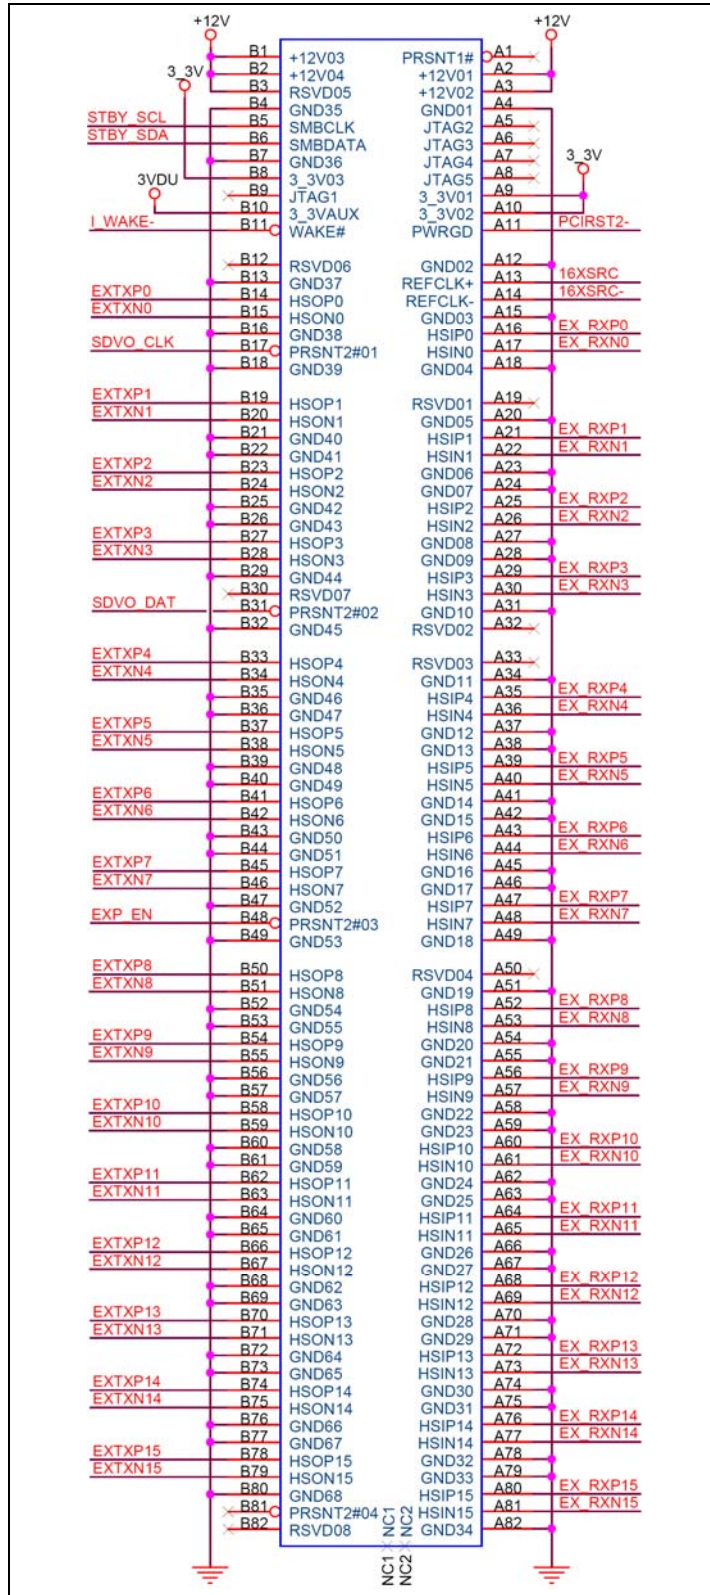

Figure 4-15: PCI Express x16 Slot Connector Location
- CN Location:** See Figure 4-15